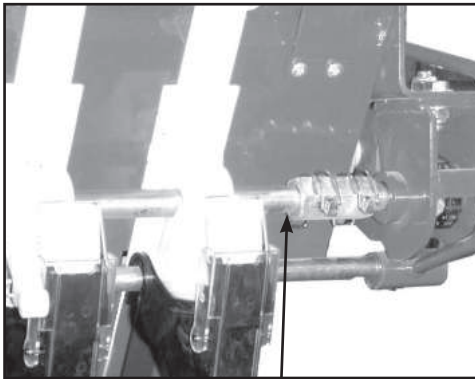

Fig 18
The fine seed metering wheel used in Duncan Drills is especially well suited for sowing small seeds such as rape. Due to the intensive action caused by the agitator the seeds can adhere to each other, or be damaged, causing irregular sowing/germination. **Therefore it is recommended that when sowing small seeds, especially oil seeds and thin shelled seeds, the drive to the agitator is disconnected.** To do this remove the lynch pin (1) (Fig 18).